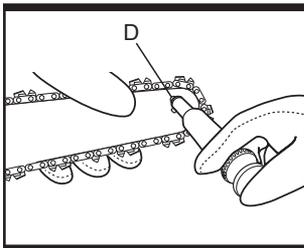

Fig. 29
3). Using disposable lube gun, insert needle nose into the lubrication hole (D) and inject grease until it appears at the outside edge of the sprocket tip. (See Fig.29).